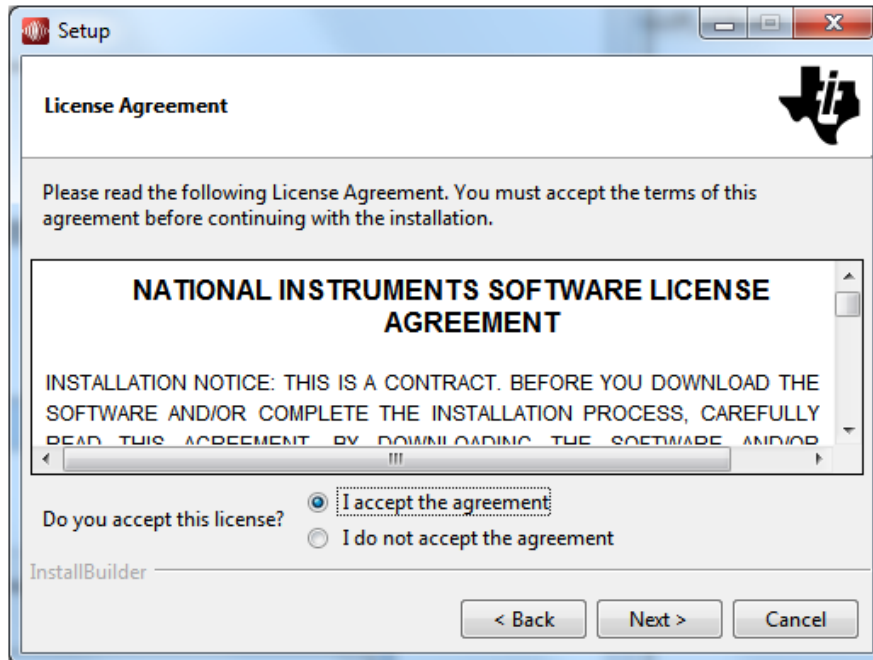

Figure 36. HMC-DAQ GUI Install(NI License Agreement)
3. Read the National Instruments License Agreement and select I accept the agreement followed by the *Next* button, as in Figure 36.